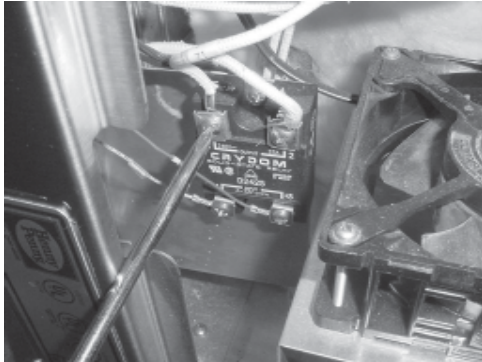

Figure 2-15
8. Using a Phillips head screwdriver, remove the wires from relay (Figure 2-15).